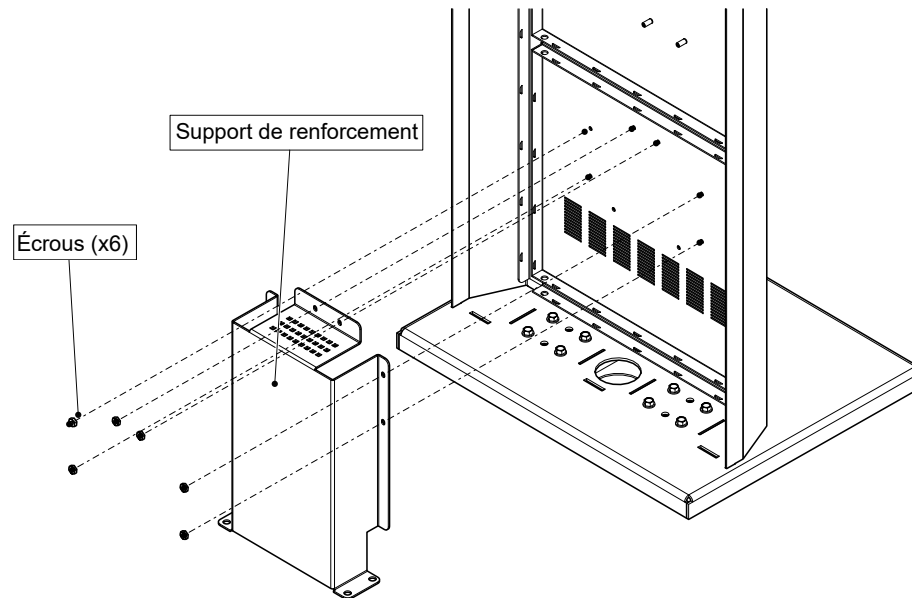

Figure 4: 4V...SUEFSFOG...
3. Position the reinforcement bracket over the 6 studs on the inside of the Kiosk, and screw the 6 nuts on to the studs as shown in Figure 4.